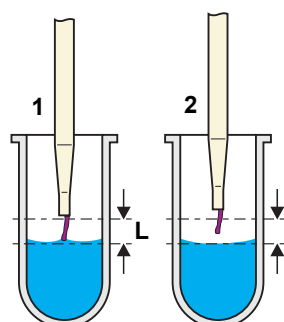

Fig. 3-44 Filament hanging from the tip
- ♦ A filament hanging from the tip, causing a risk of contamination of the work area when the tip moves on to dispense the liquid into the destination container (see Fig. 3-44 “Filament hanging from the tip”, 3-47).